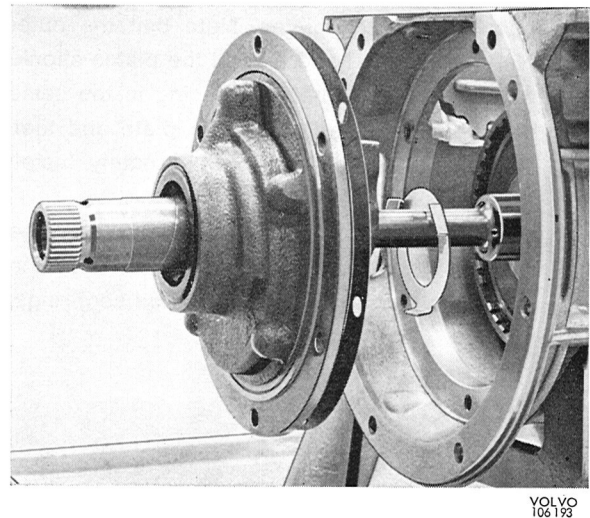

Fig. 4-123. Installation sequence, front pump assembly, thrust washer and gasket
20. Stick on the trust washer with vaseline and then install the pump with a new gasket on the transmission case, see Fig. 4-123. Re-check the axial play in accordance with point 21, page 4:37.